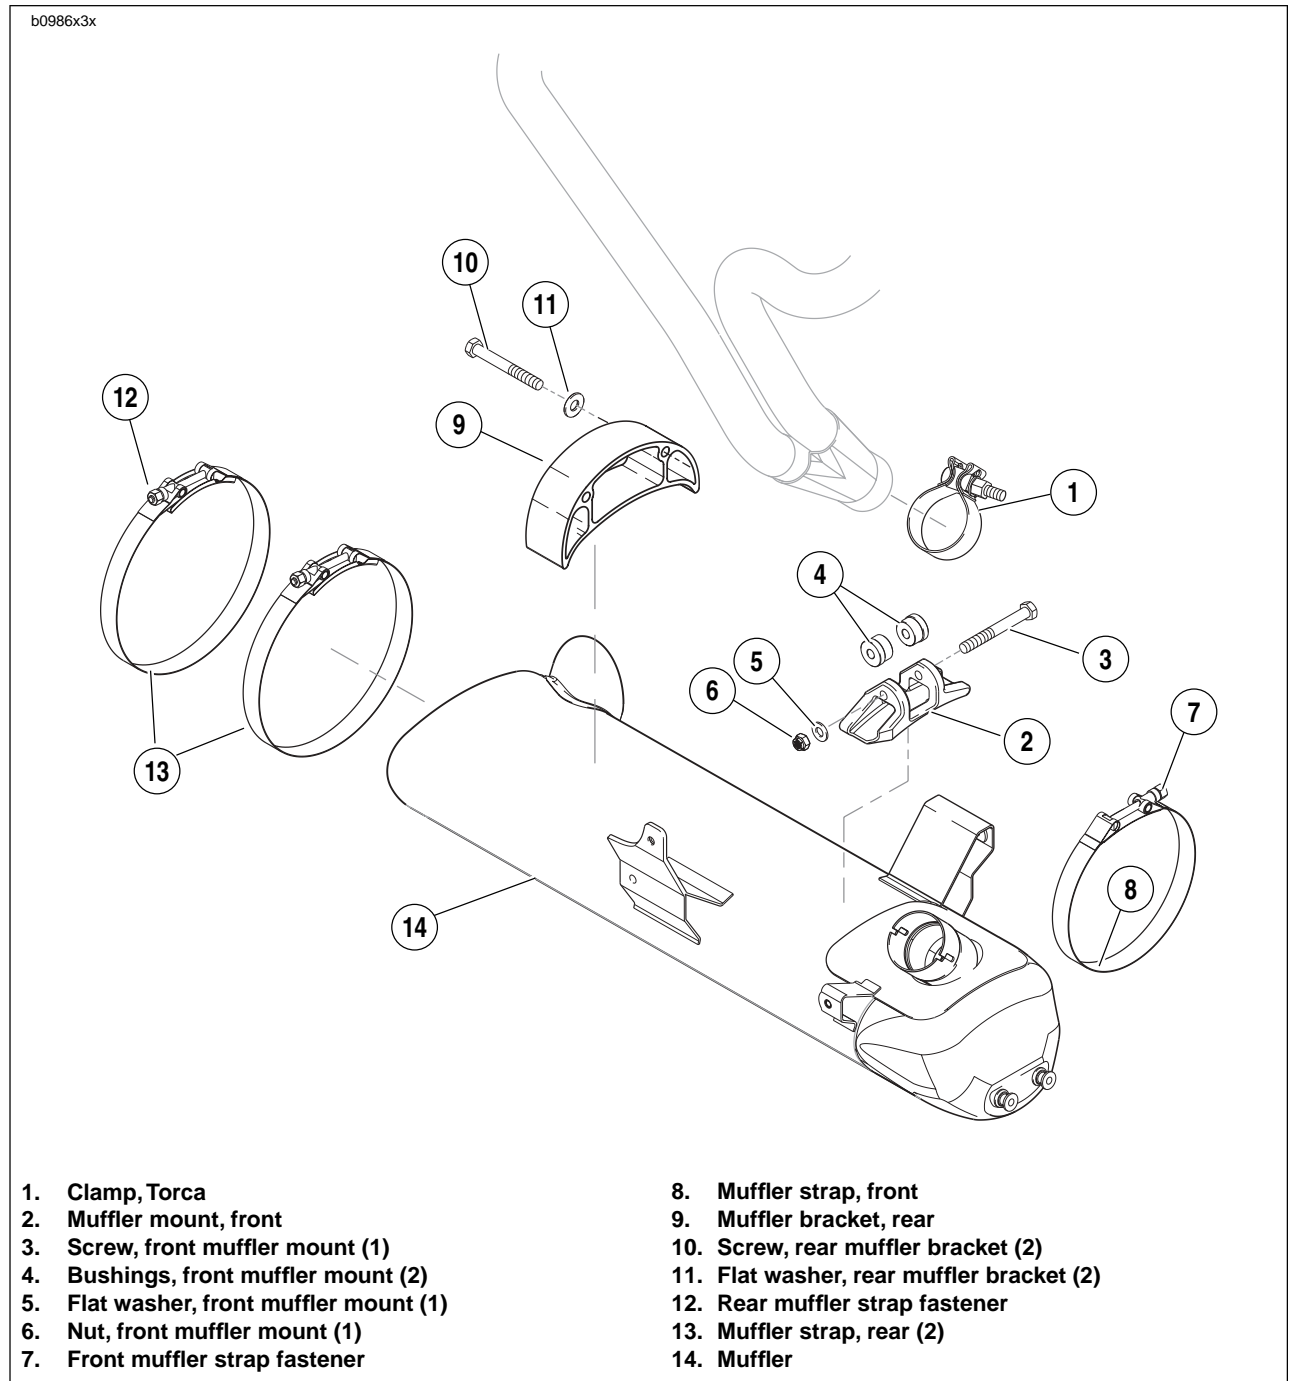

Figure 3-18. Muffer and Mounting System
13. Remove complete chin fairing, (7) bolts.
16. See Figure 3-18. Remove muffer:
- a. Remove front muffer strap fastener (7). Front strap will not be removed.
- b. Alternately loosen rear strap fasteners (12) and remove rear muffer straps.